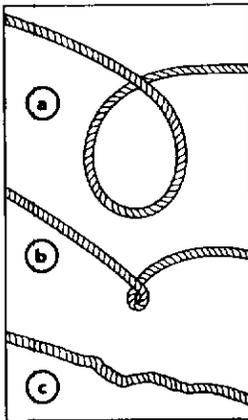

Figure 9
7. **PREVENT KINKS BEFORE THEY OCCUR** (See Figure 9).